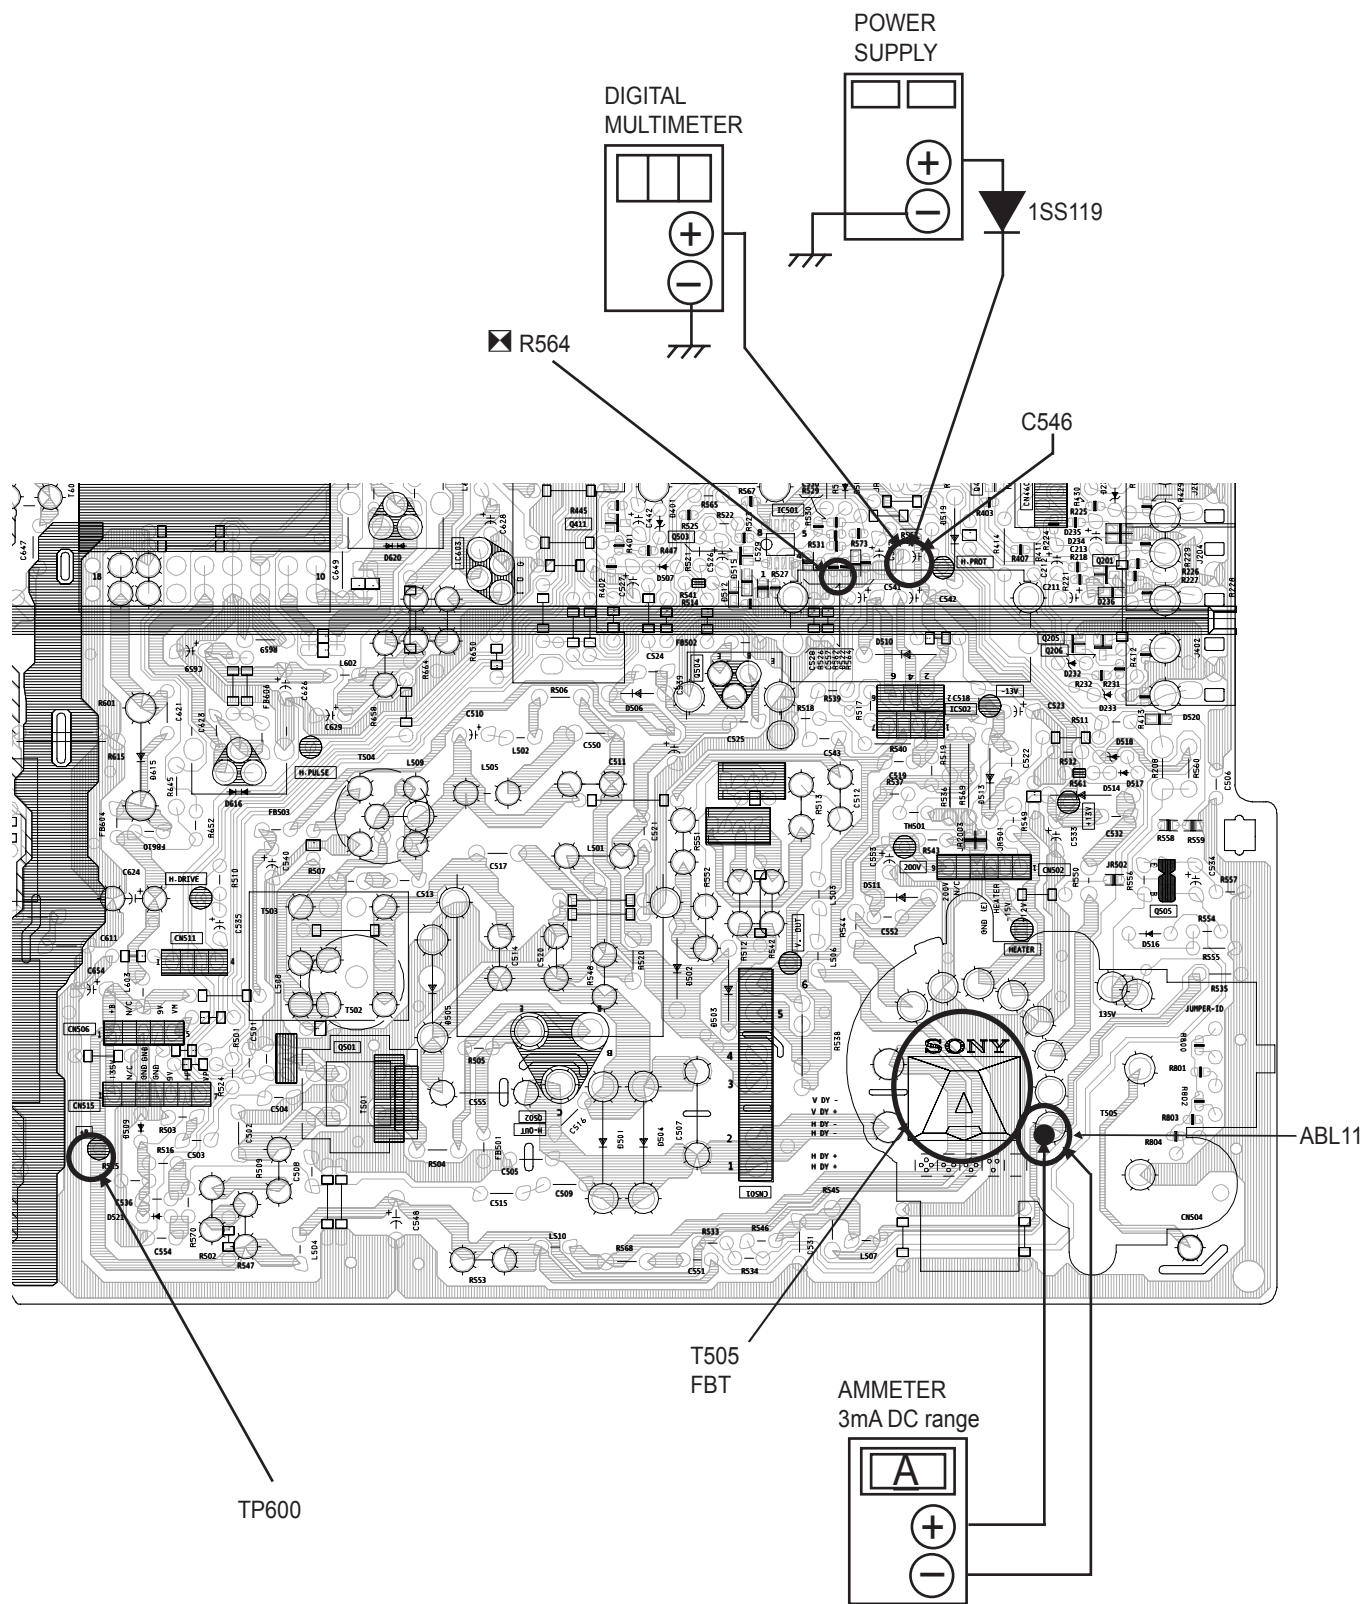

Figure 1
1. Connect the current meter between Pin 11 of the FBT (T505) and the PWB land where Pin 11 would normally attach. (See Figure 1 on the next page.)
4. Connect the digital voltmeter and the DC power supply via diode 1SS119 to C546 (+) and ground. (See Figure 1 on the next page.)